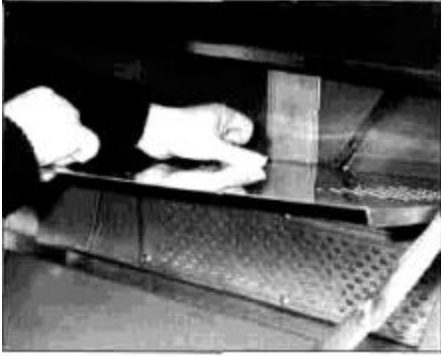

FIGURE 4
3. Remove the bottom chip cover and set aside. (See figure 4.)